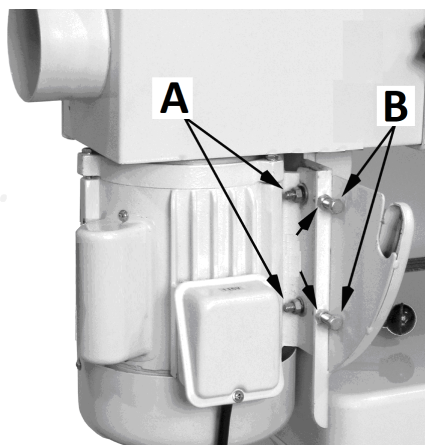

Fig 15
Slightly loosen the four motor mount nuts (A, Fig 15) just enough so the tracking bolts (B) can make an adjustment.